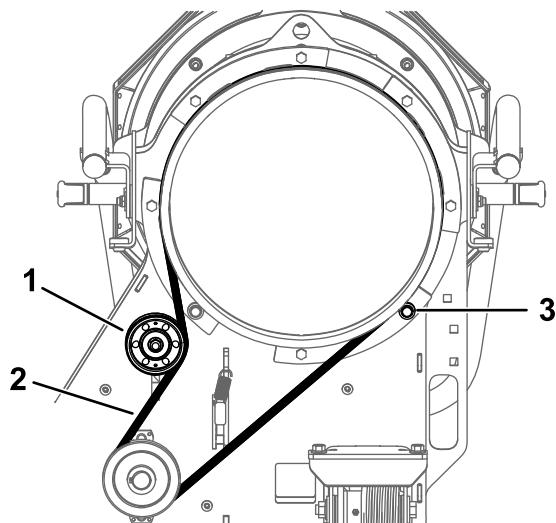

Figure 30
4. Loosen the nut on the top pulley and slide the pulley up to release tension on the belt (Figure 30).
5. Remove the roller bearing (Figure 30).
6. Remove the belt and install a new belt (Figure 30).
7. Install the roller bearing (Figure 30)
8. Slide the top pulley down until the belt deflection is 5 mm (0.19 inch) at the center of the largest span and tighten the nut (Figure 30).